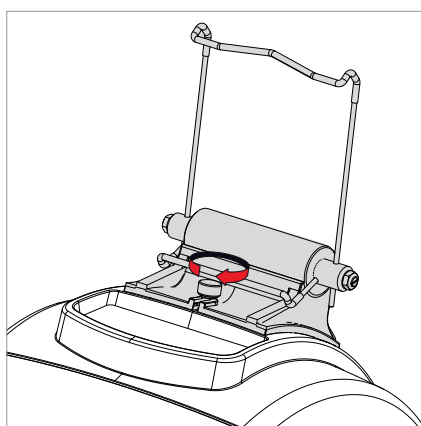

Fig. 15
- 4) Screw down and tighten the knob to secure the tablet stand to the cover (Fig. 15).